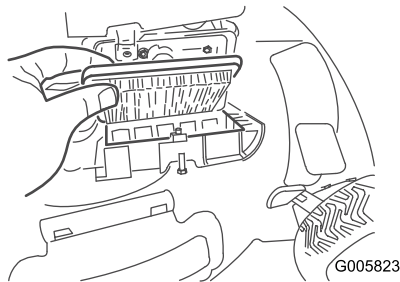

Figure 28
2. Replace the air filter (Figure 28).